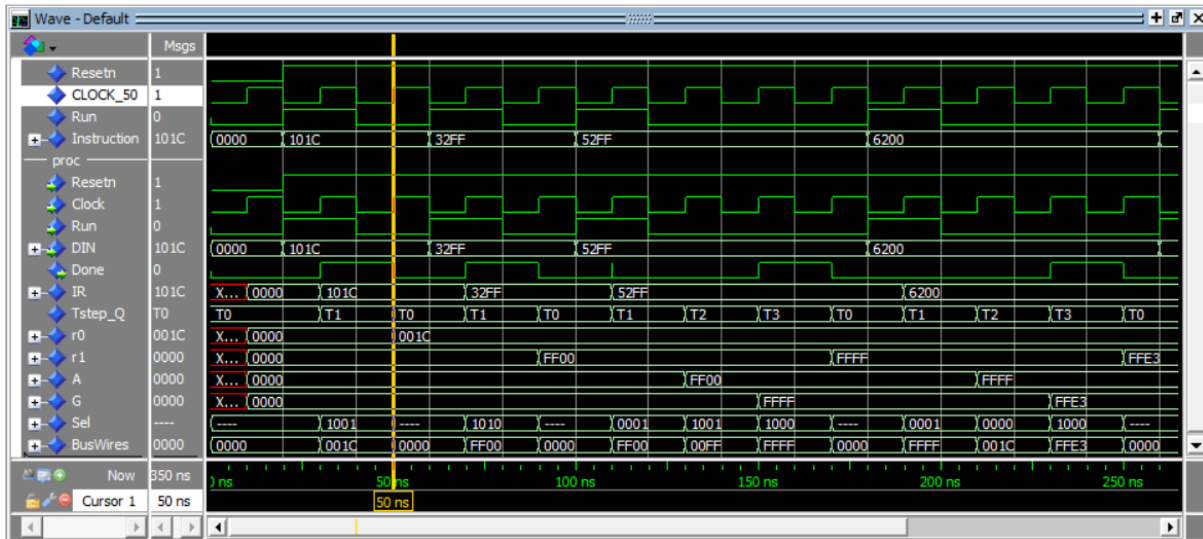

Figure 3: Simulation results for the processor.
- Set up the required subfolder and files so that your VHDL code can be compiled and simulated using the Questa or ModelSim Simulator to verify that your processor works properly. An example simulation result for a correctly-designed circuit is given in Figure 3. It shows the value `0x101C` being loaded into *IR* from *DIN* at time 30 ns. This pattern represents the instruction `mv r0, #28`, where the immediate value $D = 28$ (`0x1C`) is loaded into *r0* on the clock edge at 50 ns. The simulation results then show the instruction `mv r1, #0xFF` at 70 ns, `add r0, #0xFF` starting at 110 ns, and `sub r1, r0` starting at 190 ns.